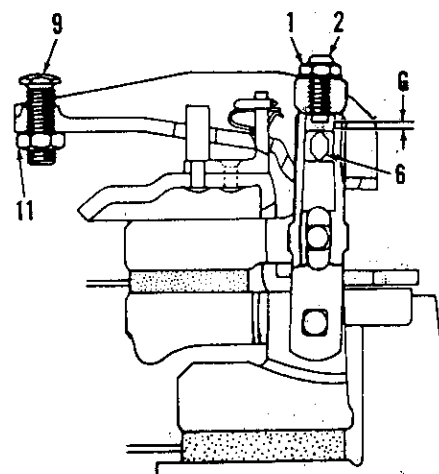

Fig. 180—Cross sectional view of release lever used on dual clutch. Gap (G) controls release of pto clutch. Gap must be adjusted after clutch is installed.
Adjust pto clutch release linkage after clutch is installed by loosening locknuts (1—Fig. 180) and backing out turning screws (2). The gap (G) between adjusting screw and release lever strut should be set at 0.050-0.054 inch for tractors with either an external clutch pedal return spring or an internal coil type return spring. Gap (G) should be set at 0.070-0.074 inch for tractors with internal leaf type pedal return spring. Turn adjusting screw (2) until correct